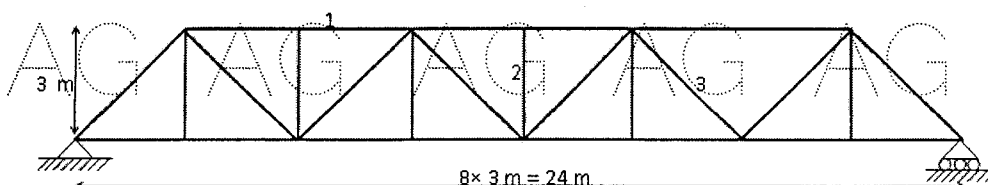

Figure: 11
11. Draw the influence lines for the members 1, 2, and 3 of a truss shown in figure 11.